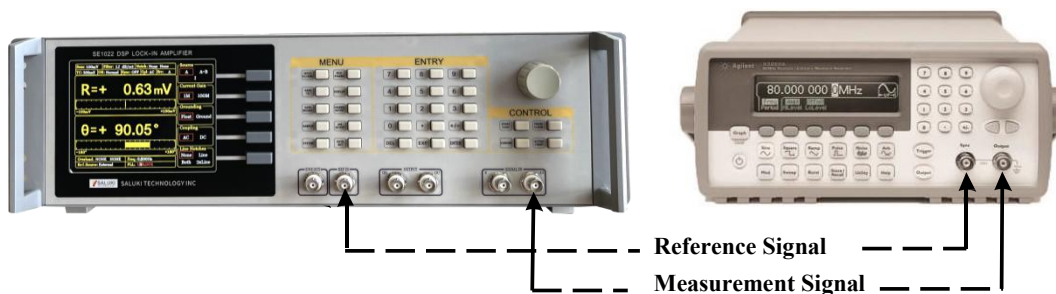

Fig.87 Signal Cable Connection Diagram
2. Use a BNC cable to connect the output of the function signal generator and the A/I input of the SE1022. Use another BNC cable to connect the reference signal of the function signal generator and the REF IN of the SE1022, as is shown in Fig.87.